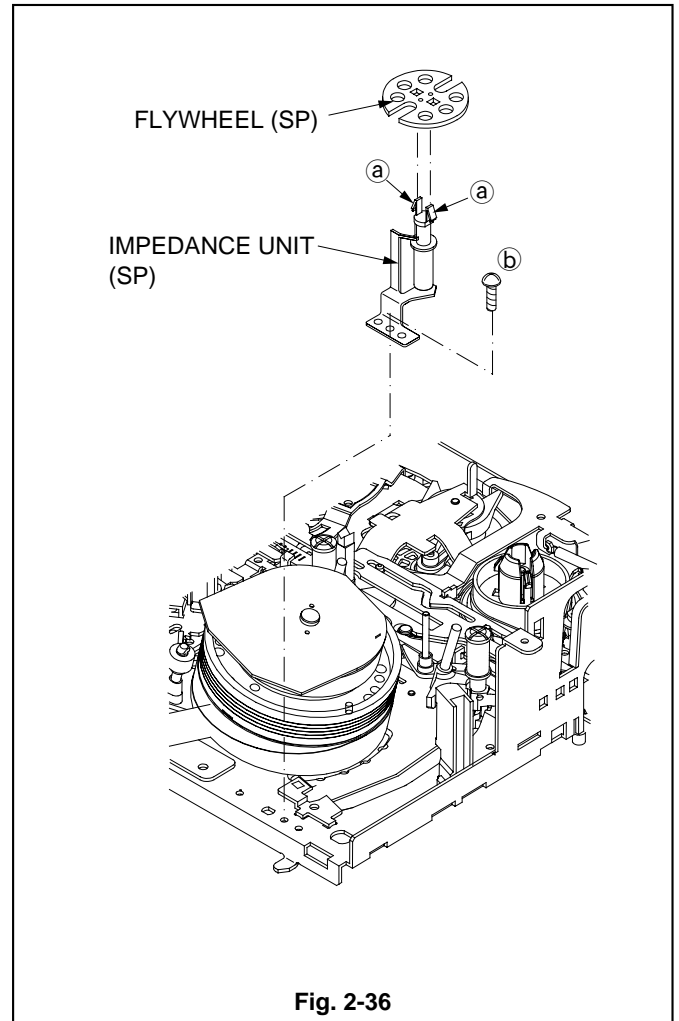

Fig. 2-36
1. Unfasten the two catches (a) on the IMPEDANCE UNIT (SP) shown in Fig. 2-36, and remove the FLYWHEEL (SP).
2. Remove the screw (b) on the IMPEDANCE UNIT (SP) shown in Fig. 2-36, and remove the IMPEDANCE UNIT (SP).
1. Install the IMPEDANCE UNIT (SP) shown in Fig. 2-36.
2. Install the FLYWHEEL (SP) shown in Fig. 2-36.